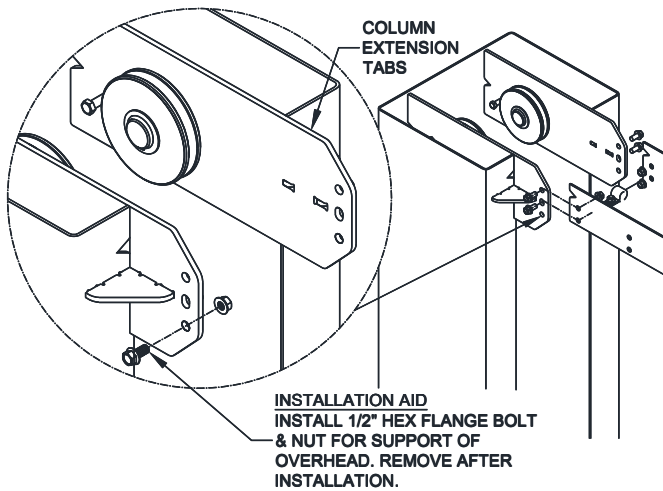

Fig. 6 – Overhead Assembly
- 25) Before raising overhead into position, install 4 (2 per column) hex flange bolts and nuts in bottom hole of column extension tab (see Fig. 6 **Installation Aid**) for temporary support of overhead. Lift overhead assembly up into position and install with 8 (4 per column) 1/2-13 x 1" lg hex flange bolts and hex flange nuts per side as shown in Fig. 6. For the wide position, the outer overhead holes will be used. For the 6" reduced width, use one set of outer overhead holes and one set of inner overhead holes. For the narrow width, use the inner sets of overhead holes.